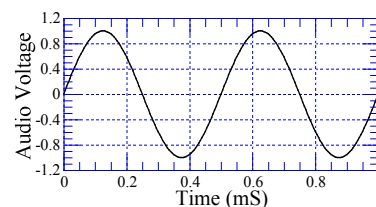

Figure 9-11 Audio Signal
One classic use of the small signal diode is as a detector for an amplitude modulated (AM) radio wave. This is a radio frequency (RF) signal, usually between 0.5MHz and 1.5MHz, whose amplitude or size is made to increase or decrease with the shape of a low frequency, audio, signal. Figure 9-11 shows a small portion of an audio frequency signal, in this case a sine wave at 2kHz, a high-pitched whistle.